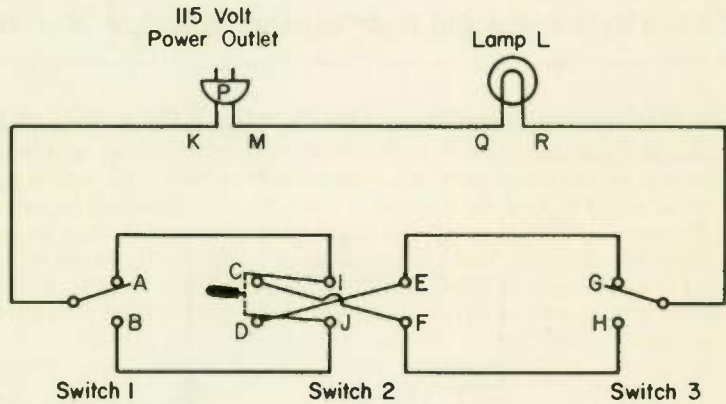

Fig. 8
9. Figure 8 shows a circuit for turning a light on or off at any one of three different points.